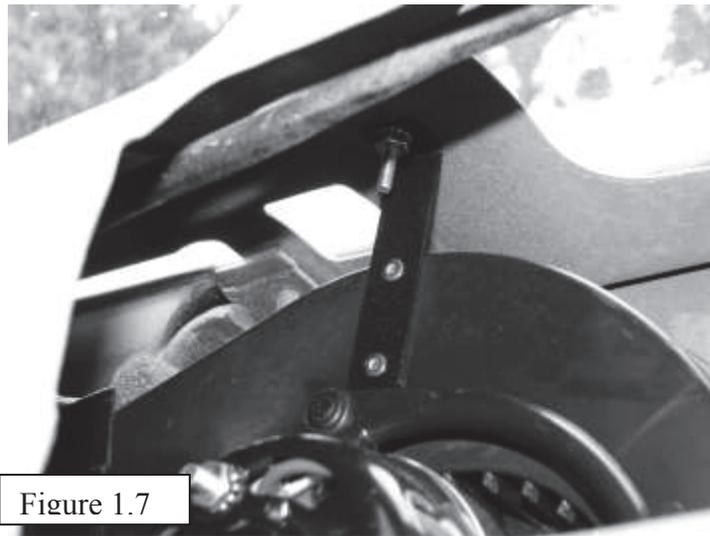

Figure 1.7
- 16) Use one self tapping waffle head screw to secure the other end of the blower motor to the firewall. Figure 1.7 / 1.8